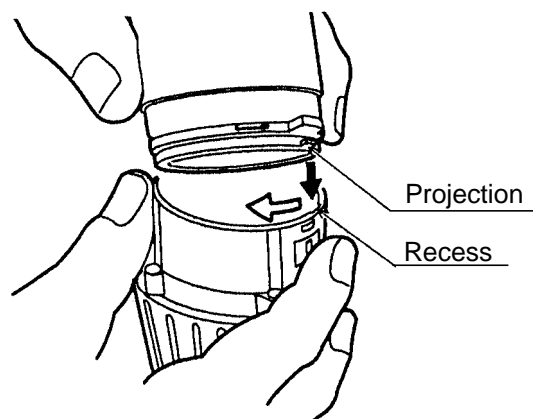

Fig. 11
(g) Install the assembly reassembled in step (1) and the assembly reassembled in step (f) together. (See Fig. 11.)